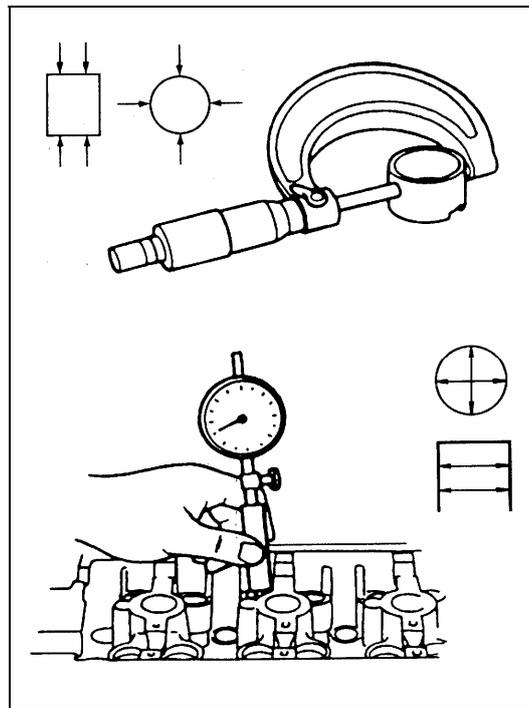

Fig 4-160
2) measure tappet hole diameter of cylinder cover and outside diameter of tappet, if the clearance is out of limit, replace tappet and cylinder cover, see fig.4-160.